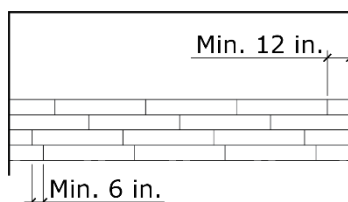

Figure 2: Determining perimeter plank length
- f. When determining the layout of the planks in the long dimension, keep the plank lengths greater than 12 in. (30.5 cm) whenever possible at the extents of the installation area. This can easily be done by cutting the difference off of the plank at the opposite end of the column and shifting the column upward. Keep in mind that the plank end joints should be a minimum of 6 in. (15.2 cm) apart, so adjacent columns may need to be shifted, too. This is why dry fitting is important, so that these changes or adjustments do not need to be made last minute after the adhesive has already been applied. As with the widths, longer planks at the extents will provide a more balanced layout. See **Figure 2** below.